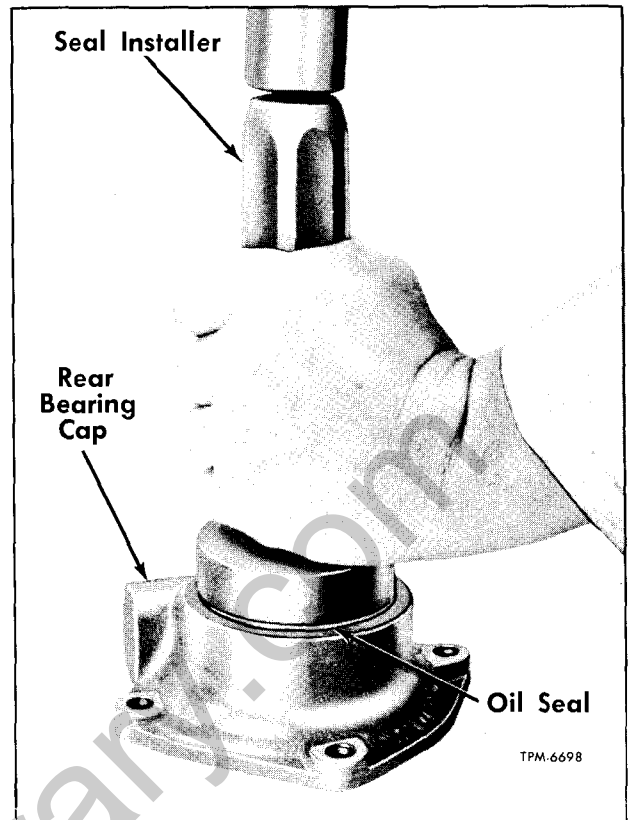

Figure 7—Installing Mainshaft Rear Bearing Cap Oil Seal
1. Install new oil seal in mainshaft rear bearing cap using a suitable seal installer as shown in figure 7, with lip of seal pointing toward transmission case.
mended, using the check points indicated by letters in figure 7.